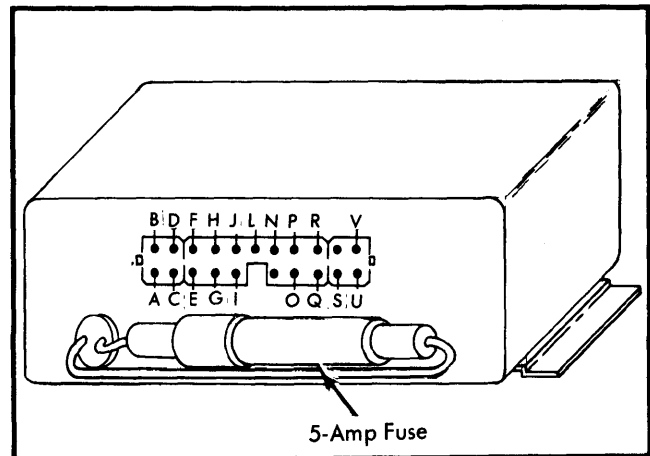

Fig. 1 Terminal Locations of Control Unit
- 2) Referring to Fig. 1. for terminal locations, check that current flows to terminals "B", "J", "R" and "O" when engine is operating at idle. Voltage of about 3-8 volts should flow to terminal "A" when engine is operating at idle.